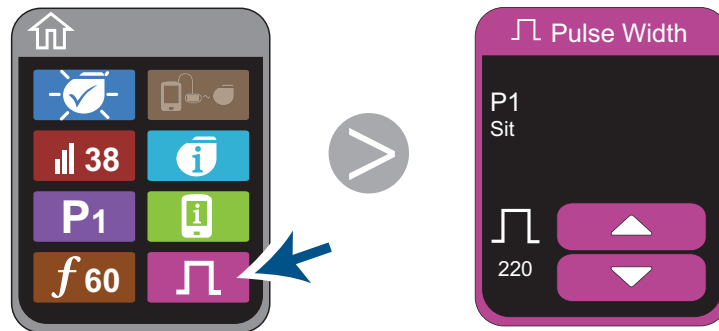

Figure 24. Displaying the Pulse Width screen
2. Tap  on the Home screen (Figure 24). The Pulse Width screen appears with the pulse width displayed on the left side of the screen.